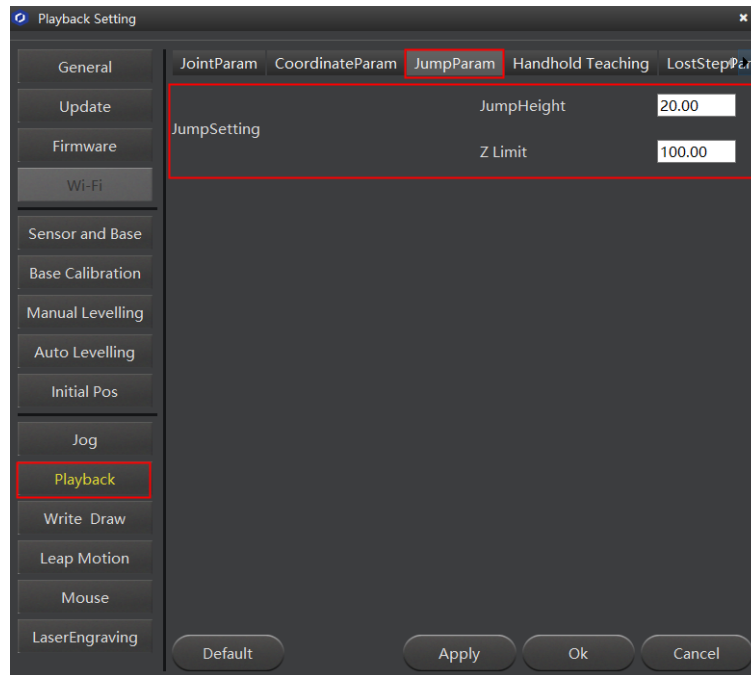

Figure 5.29 Jump parameters
2. Set the lifting height (**JumpHeight**) and the maximum lifting height (**Z Limit**) by selecting **Setting > Playback > JumpParam**, as shown in Figure 5.29.